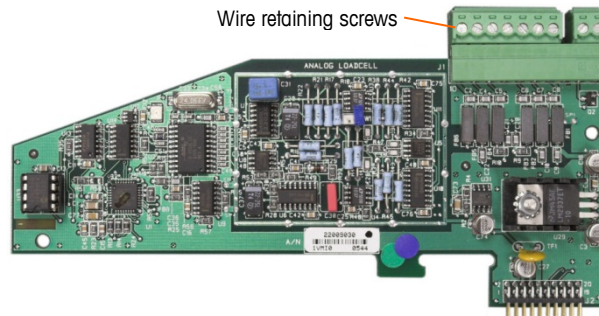
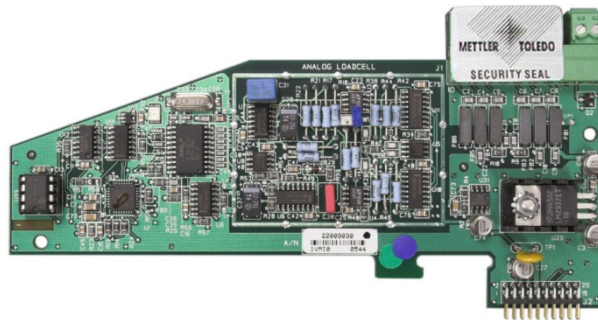

Figure A-92: Unprotected Option Board Connection
Figure A-93: Security Seal Installed
9. To protect the load cell interconnecting cable/s (attached to option boards), a security seal must be placed over each connector to ensure that it is not removed or disconnected. The seal also prevents access to the wire retaining screws indicated in Figure A-92. Figure A-93 shows a seal in place.